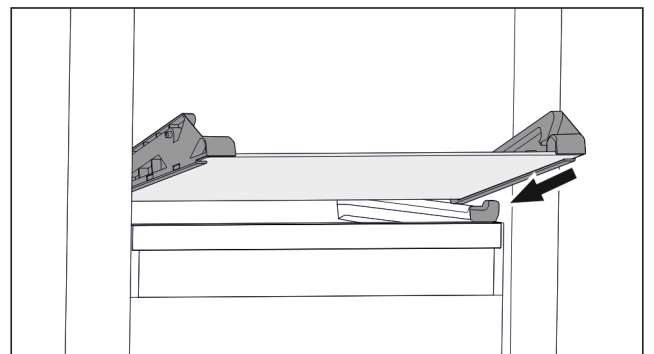

Fig. 73 Tilting drawer glass shelf
- ▶ Position glass shelf at an angle behind the stoppers. (see Fig. 73)